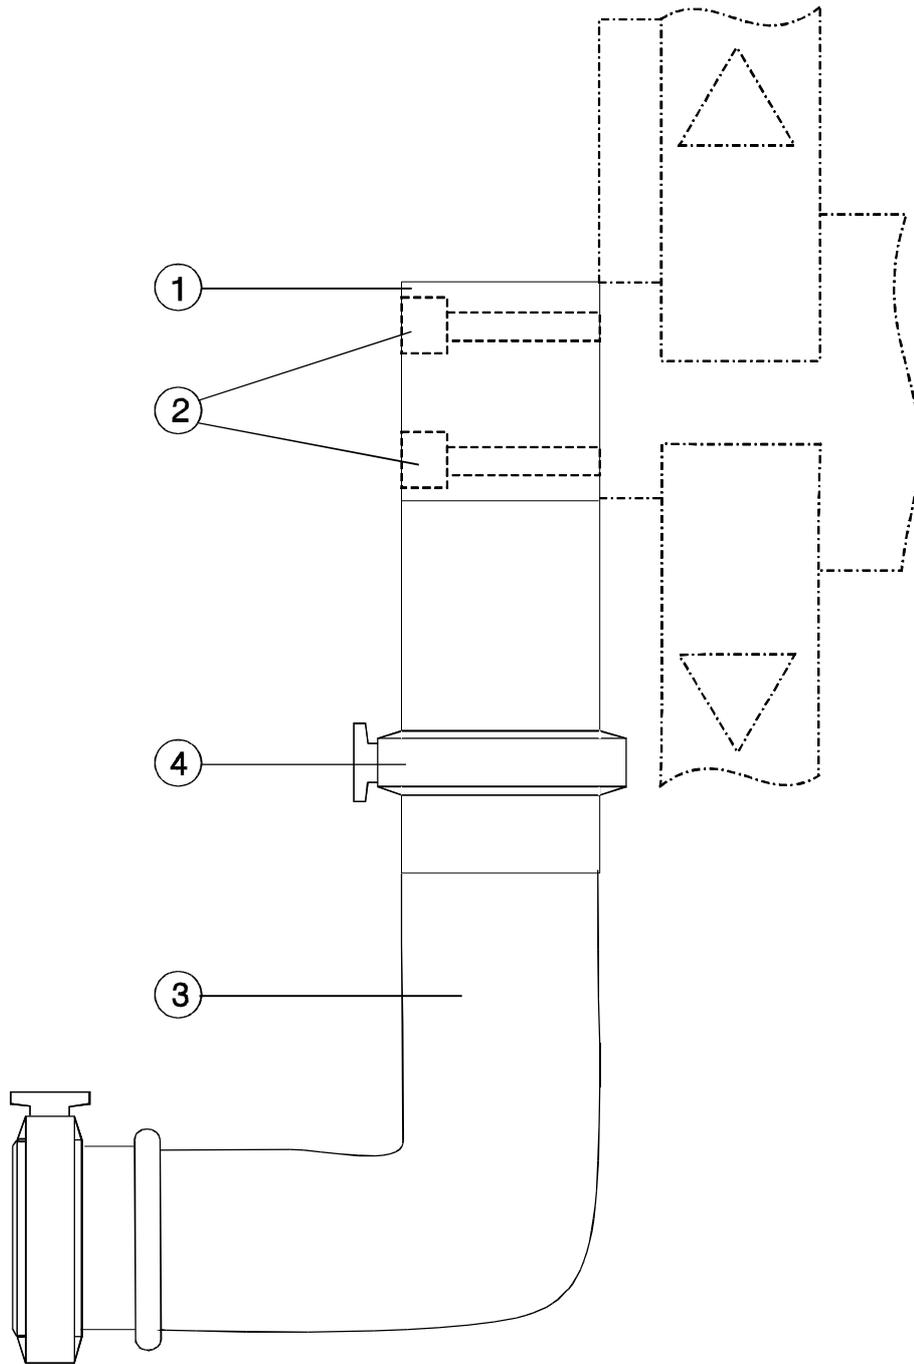

Figure 3.3 - Rotary pump accessory connection details
4. Using a 3 mm A/F 'L' shaped hexagonal key (Allen key) remove the blanking plate from the nearest end of the manifold to which will be fitted the connection pipework (see Figure 3.3). Note the 'O' ring in the groove around the port is to be re-used.
5. Identify the adapter pump connection (Figure 3.3, item 1) and locate this item, with the tube port pointing downwards (as in the diagram) and using the four M4 x 30 screws (Figure 3.3, item 2) with the 3 mm A/F 'L' shaped hexagonal key fit the adapter to the manifold. Take care that the 'O' ring is again located correctly in the groove on the manifold port.
6. Next fit the NW25 x 500 mm flexible connection (Figure 3.3, item 3) to the adapter pump connection (Figure 3.3, item 1) with a KF25 clamping ring (Figure 3.3, item 4).
8. Feed the NW25 stainless steel x 500 mm flexible connection (Figure 3.3, item 3) through the hole left by removing the plastic blank.
9. A suitable KF25 flexible hose is required to fit your rotary pump to the flexible connection (Figure 3.3, item 3).
Key to Figure 3.3